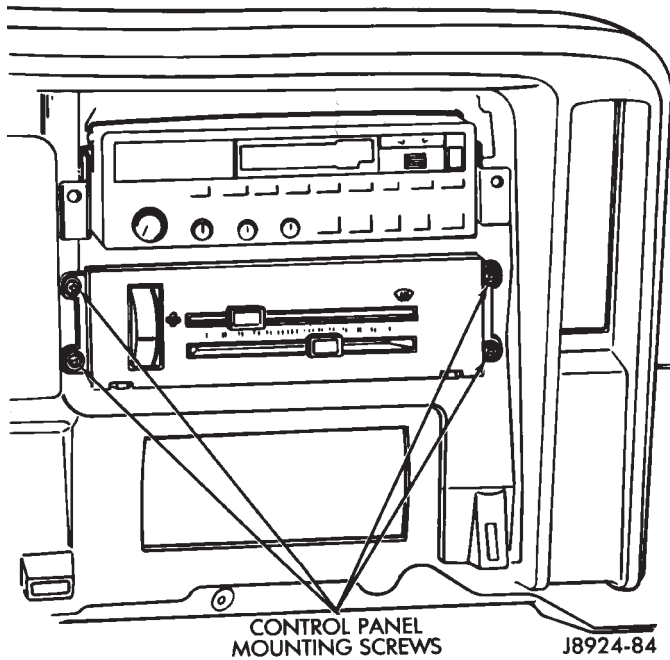

Fig. 4 Control Panel Mounting Screws
(5) Remove the A/C-heater control panel screws (Fig. 4).